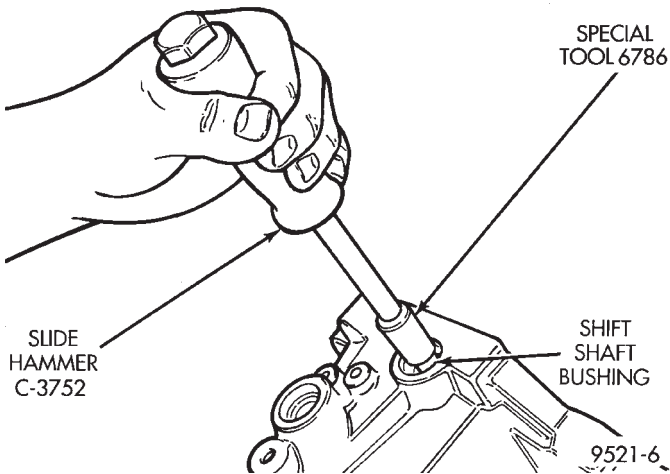

Fig. 144 Selector Shaft Bushing Removal
- (1) Remove selector shaft using procedure in this group.
- (2) Thread tool #6786 into bushing.
- (3) Install slide hammer #3752 onto tool and remove bushing using slide hammer (Fig. 144).